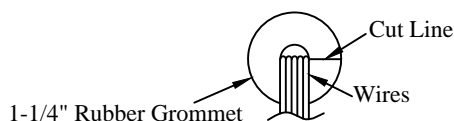

Figure 7: Wire Grommet
- 2. Cut** the 1 $\frac{1}{4}$ " rubber grommets from the inner hole out (Figure 7).
- 3. Place** the 1 $\frac{1}{4}$ " rubber grommets around wires (Figure 7)